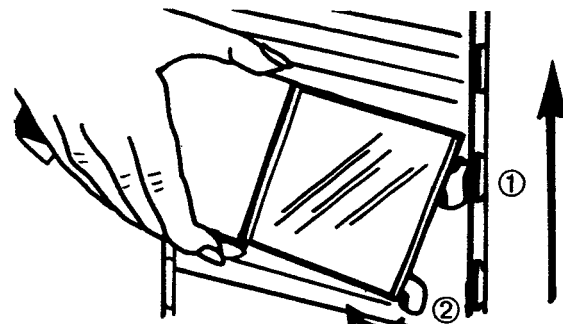

Figure 12.
- Rotate shelf bottom out and up to remove mounting hooks from door slot. See Figure 12.